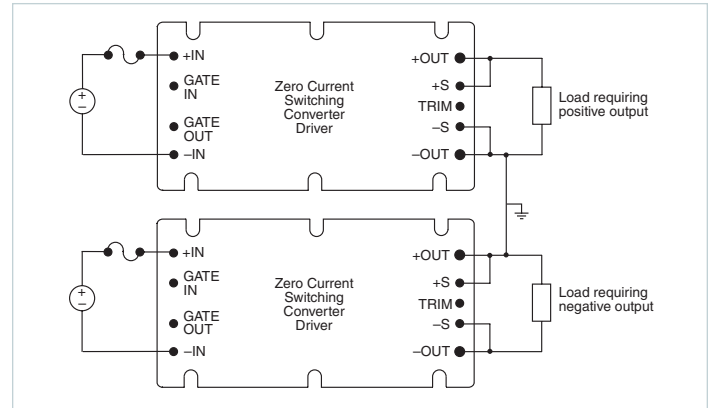

Figure 7.7 — Dual output voltages
**Dual Output Voltages:** (Figure 7.7) Vicor modules have isolated outputs so they can easily be referenced to a common node creating positive and / or negative rails.